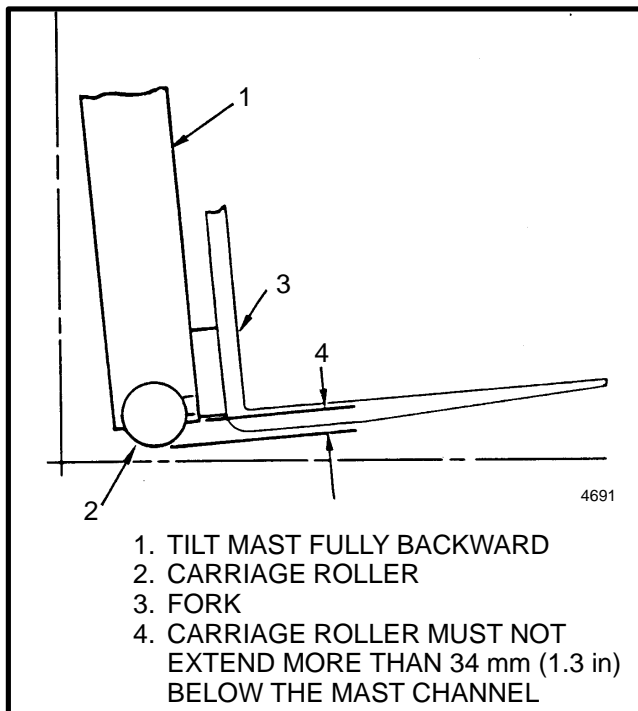

FIGURE 26. LIFT CHAIN ADJUSTMENTS
### LIFT CHAIN ADJUSTMENTS (See FIGURE 26.)
3. See FIGURE 26. Check the amount that the bottom carriage roller extends below the inner channel of the mast. The carriage roller must not extend more than 1/3 of the roller diameter below the inner channel. If the adjustment is not correct, remove the load and adjust the chain anchors. Make sure that each chain anchor is adjusted the same amount.